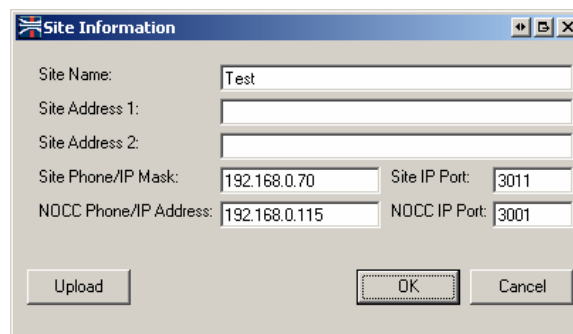

Figure 5 – Site Information
7. Select 'Configuration->Site Information' and give the unit a Site Name, Site IP Address, Site IP Port, NOCC IP Address, and NOCC IP Port. The site name must be the same name as the site name entered in the siteWRX server at the NOCC. The site IP port and NOCC IP Port should be 3011 and 3001 respectively. The site and NOCC IP addresses should be the modem IP address and the siteWRX server address. See figure 5 below for an example.